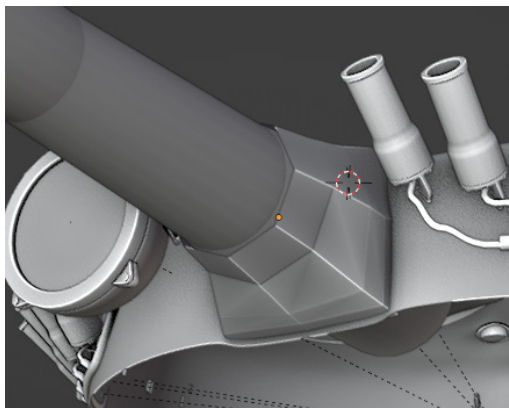

Figure 9.32 – Mantlet bottom
- Also fit the shape to the turret at the bottom of the gun, as shown in *Figure 9.32*: